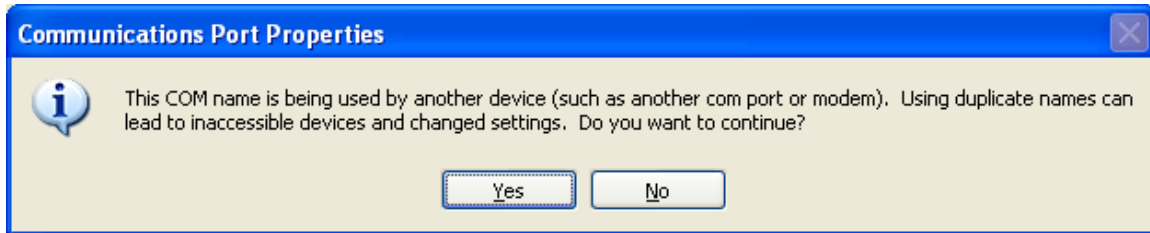

Figure 28 – XP Communication Port Properties PopUp.
- e. If you select a COM port that was in use the window in Figure 28 will appear. You can click yes if you have not installed other USB devices that use virtual COM ports. Otherwise check to make sure the other devices are not using the selected COM port.